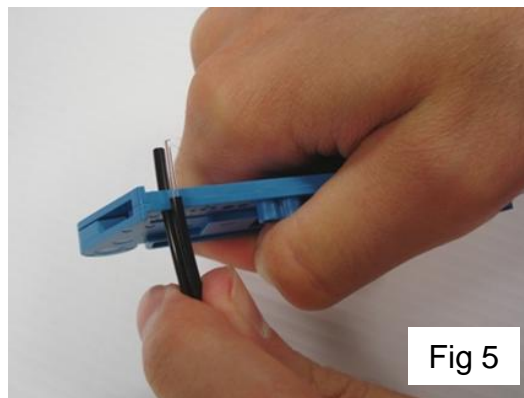

Fig 5
- Line up the second fiber to the seam of the tool as shown in Figure 5 and then remove that jacket as well.